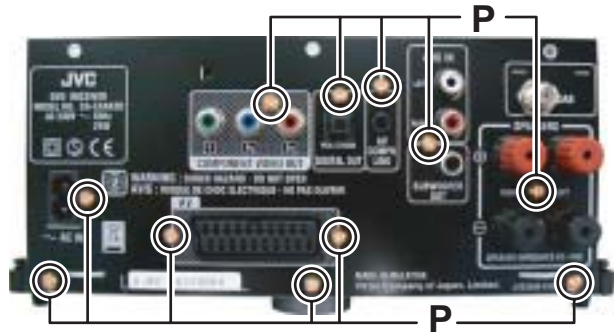

Fig.9
- (2) Remove the eleven screws **P** attaching the Rear panel. (See Fig.9)